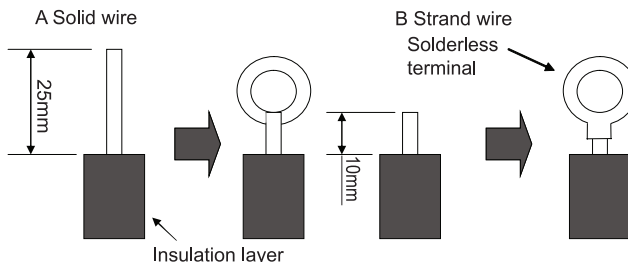

Fig.29
(1). For solid core wiring (Fig.29)
(2). For strand wiring (Fig.29)